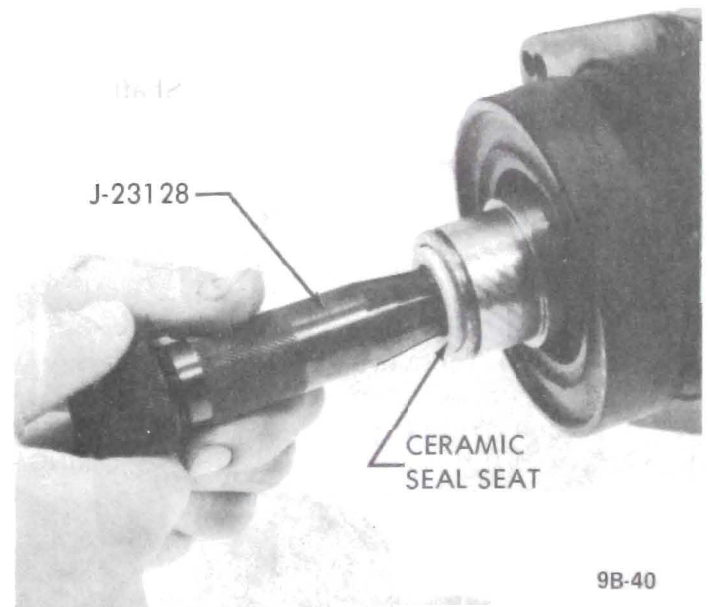

Figure 9B-46 Removing or Installing Ceramic Shaft Seal Seat
5. If compressor has an absorbent sleeve in the neck, pry out the sleeve retainer and remove the sleeve. Remove the seal seat retainer ring, using No. 21 Truarc pliers, Tool J-5403, (see Figure 9B-44).